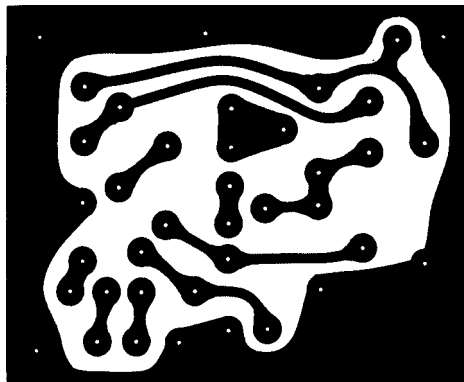

Figure 1 The track pattern of the PCB – looking from the track side
1. PCB. The plain side is the *component side* and the soldered side is the *track side*. **Figure 1** shows the track side full size. Make the PCB from the pattern given in Figure 1. Otherwise, build the circuit on a matrix board.